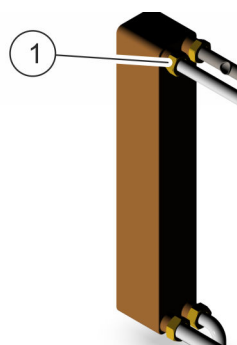

Fig. 29: Releasing bolted connections
3. ➤ To release the heat exchanger, use an adjustable spanner to release the 4 bolted connections (Fig. 29/1).
6. ➤ To bolt the new heat exchanger in place, tighten the 4 bolted connections (Fig. 29/1).